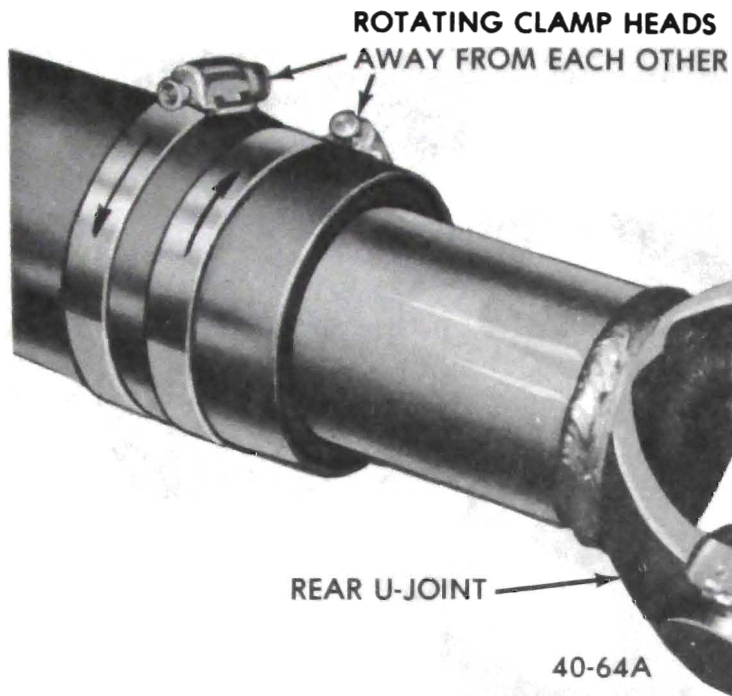

Figure 40-57 - Rotating Balance Hose Clamps
7. Position clamps at point of minimum unbalance. Rotate the clamp heads away from each other 45 degrees. (One each way from the point of minimum unbalance) Run the car and note if unbalance has improved. See Figure 40-57.